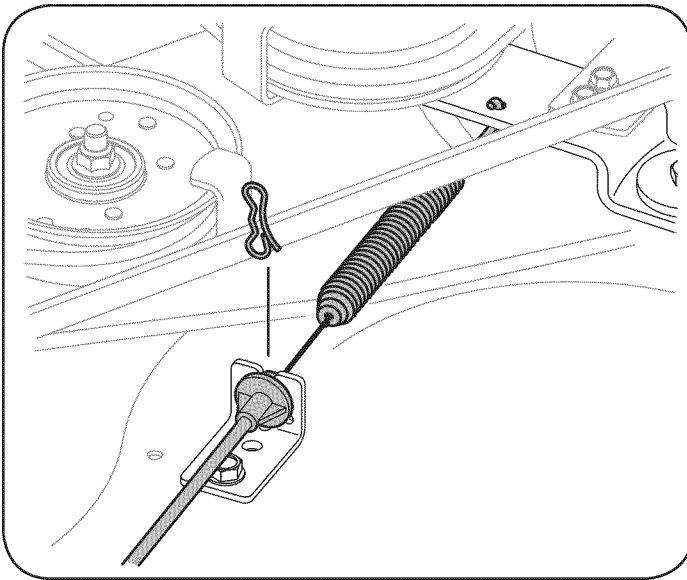

Figure 18
9. Carefully remove the PTO cable from the rear of the cutting deck by removing the bow-tie cotter pin which secures it. Remove the spring from the deck idler bracket. See Figure 18.